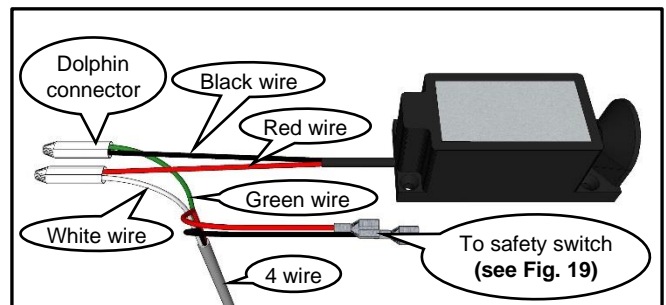

Figure 20
- 2 The black wire from the door lock connects to the green wire in the 4 wire safety circuit from junction box at opening. Use the provided dolphin connectors to crimp the wires together. (see Figure 20)
- 3 The red wire from the door lock connects to the white wire in the 4 wire safety circuit from junction box at opening. Use the provided dolphin connectors to crimp the wires together. (see Figure 20)